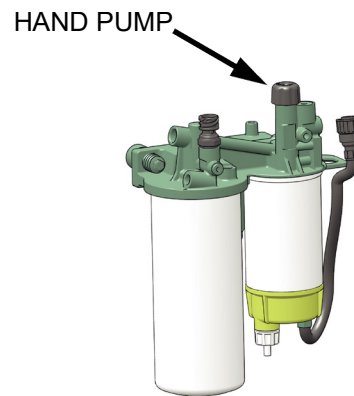

Figure 83. Bleeding The Fuel System
2. Release the **hand pump** (Figure 83) on the fuel bracket by pushing down and twisting the plastic handle.